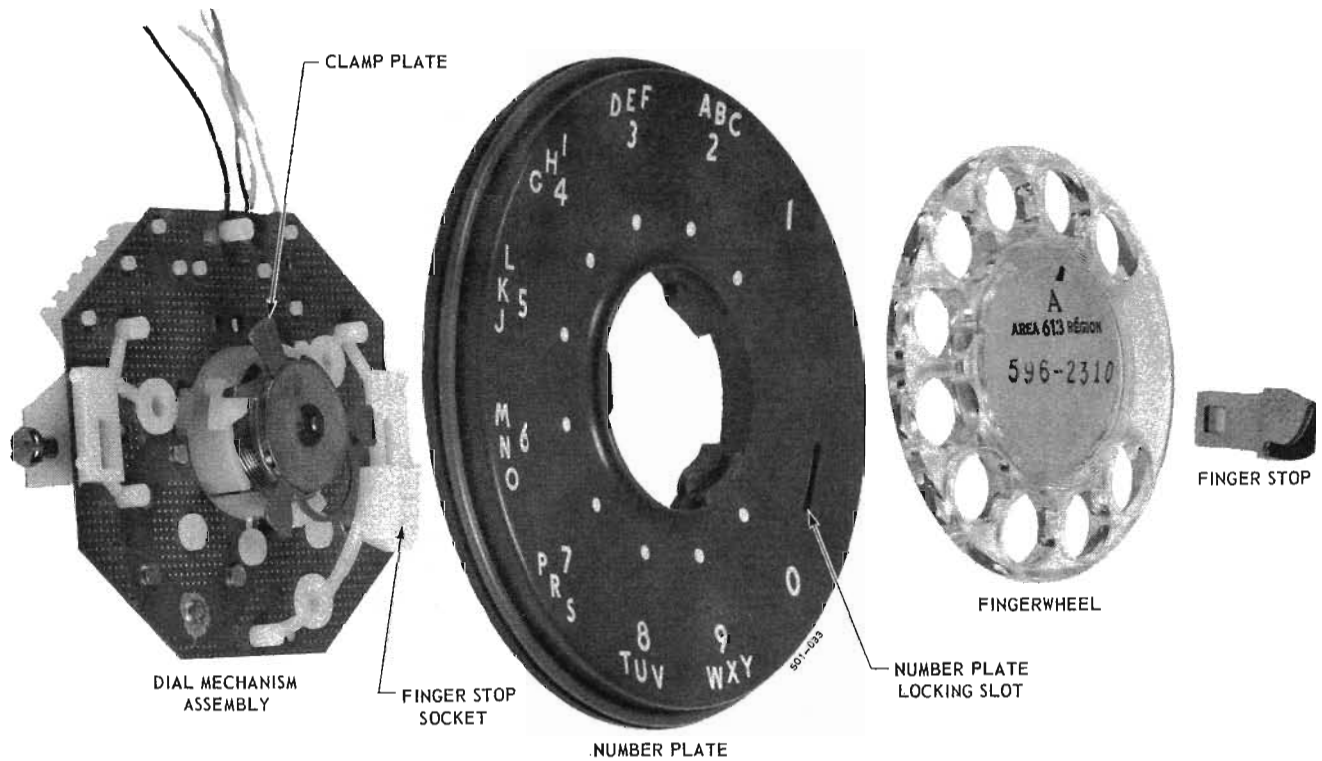

Fig. 2 — Assembly of Parts — Typical QDB1-Type Dial
3.01 The following list of inspections and requirements are given for the maintenance of QDB1-type dials. The replaceable components are shown in Fig. 2 and listed in Table C.